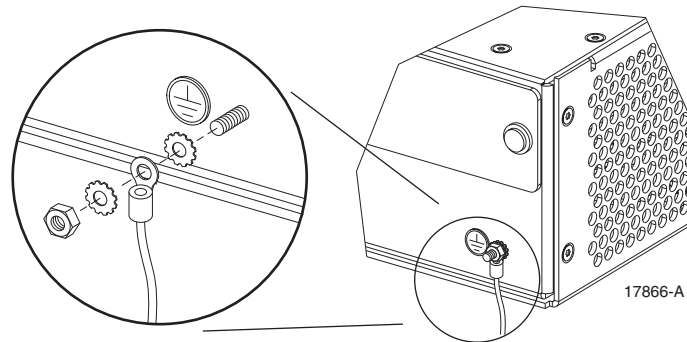

Figure 3-4. Chassis Ground Stud
3. Locate the chassis ground stud at the rear of the HU as shown in Figure 3-4.
4. Attach the ring end of the wire to the chassis ground stud (see Figure 3-4).